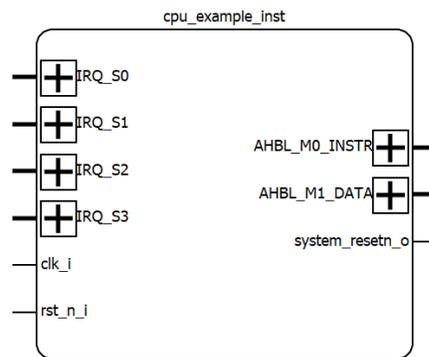

Figure 3.5. Generating CPU IP Instance
6. The CPU IP instance is successfully generated, as shown in Figure 3.5.